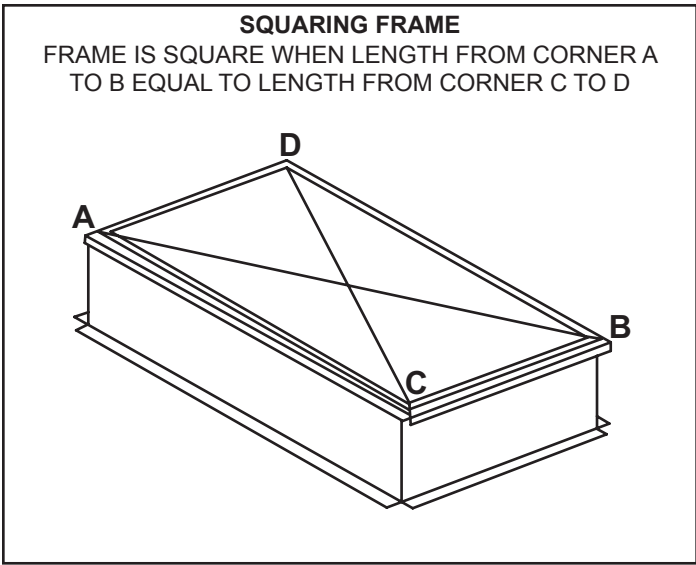

Figure 4
1. With frame situated level in desired location on roof trusses, tack weld (1) corner of frame to building structure.
2. Measure frame diagonally from corner to corner as shown in figure 4. These dimensions must be equal for frame to square.